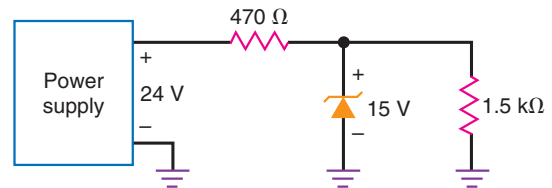

Figure 29-33
- 29.14** If the zener diode is disconnected in Fig. 29-33, what is the load voltage?
- 29.15** Calculate all three currents in Fig. 29-33.
- 29.16** Suppose the supply voltage of Fig. 29-33 can vary from 24 to 40 V. What is the maximum zener current?
- 29.18** What is the power dissipation in the resistors and zener diode of Fig. 29-33?